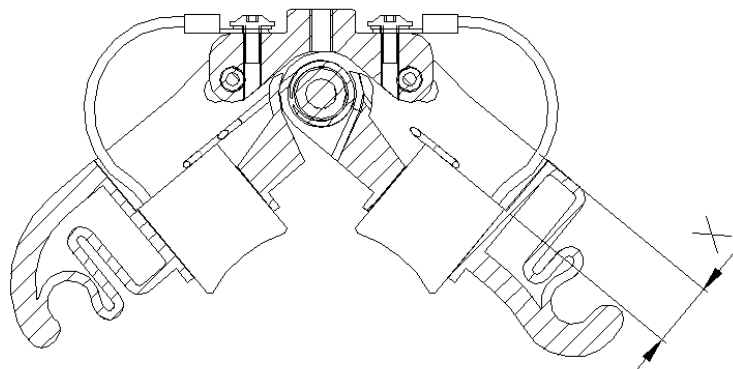

Fig. 18
- checking the brushes wear: replacement if  $X \geq 20\text{mm}$  (Fig.18)